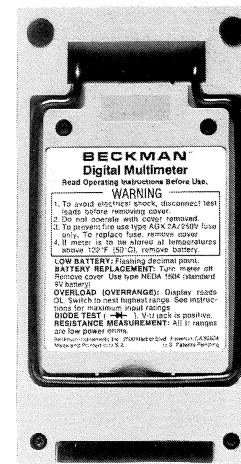

Figure 18. Rear View of Multimeter
1. After disconnecting test leads and turning off Multimeter, remove back cover by removing four screws (see Figure 18), and then lift off back cover.
1. After disconnecting test leads and turning off Multimeter, remove back cover by removing four screws, see Figure 18, and then lift off cover.